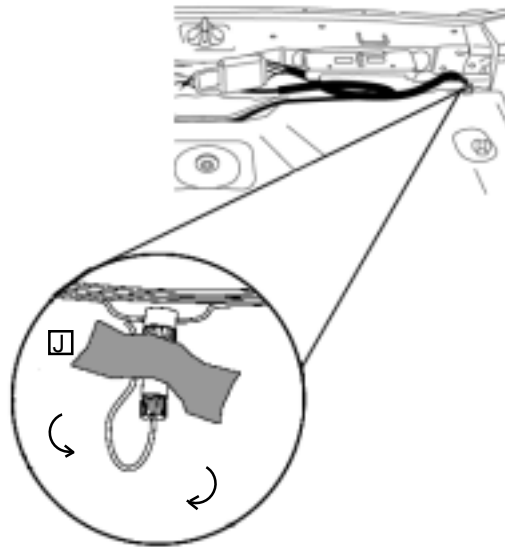

Figure 27.
10.) Use the strip of foam tape to wrap the \* Posi-Tap™ connection (Figure 27.).